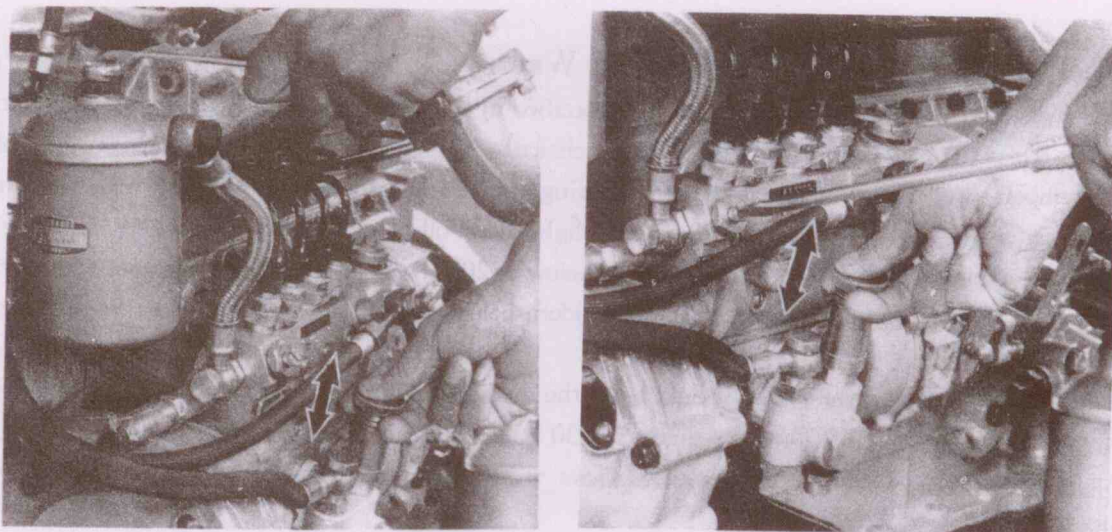

Fig. 1
- B) Check whether there is air in the fuel supply system. If there is air, slacken the venting screws on fuel filter and injection pump. Bleed the air in the fuel system by actuating the handle of the fuel feed pump until fuel flowing out without air bubbles and then retighten the venting screw (see Fig. 1). After that slacken the cap nuts at the connection of injectors and high pressure fuel pipes, bleed air and then retighten the connecting nuts.